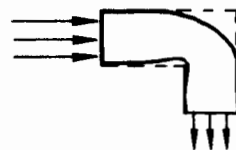

**Figure 5. Oversize Guard has lower pressure drop.**
- The further you locate a guard away from the blades, the "looser-mesh" may be its design. If you set the guard back 2", you may be able to use a few thin wires or slats, instead of a finer mesh. If you are determined to let nothing larger than a flea through the safety guards, however, you might consider an oversized guard (see sketch in figure 5) which is the equivalent of the filters "in parallel," mentioned above.